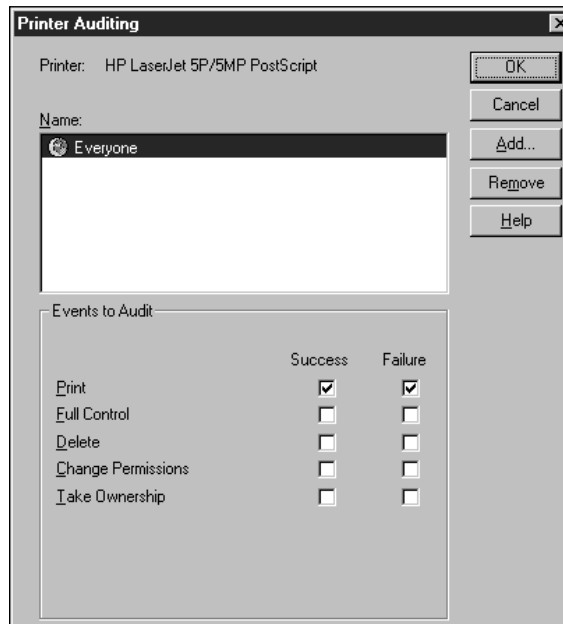

FIGURE 6-26 Configuring print events to audit
- Figure 6-26 shows the Printer Auditing dialog box. Notice that the check boxes for Success and Failure auditing of Print events are selected for the Everyone group. Click OK.